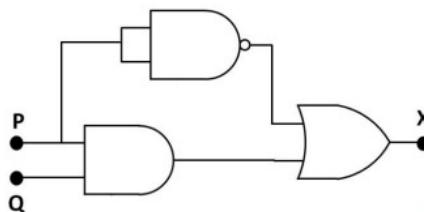

Fig. 3.24
42. In Fig. 3.24, which of the following is correct? (GATE PH 2023)